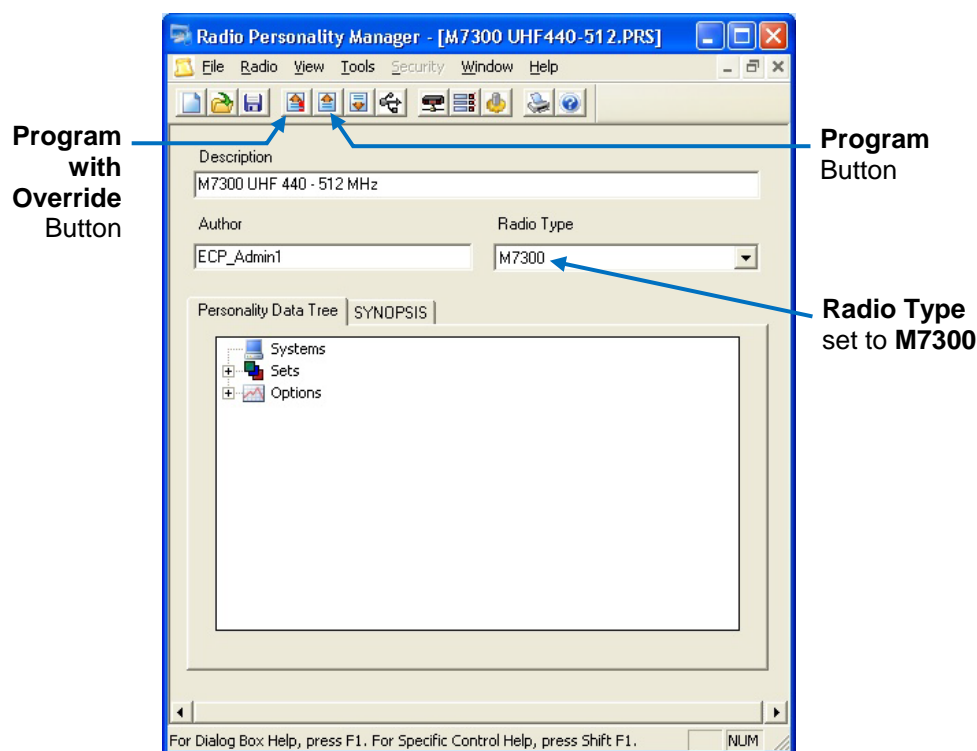

Figure 10-2: RPM's Program and Program with Override Buttons (Example Main Dialog Box)
5. As illustrated in Figure 10-2, verify the Radio Type is set to M7300 in RPM's main dialog box. If it is not, make this change.